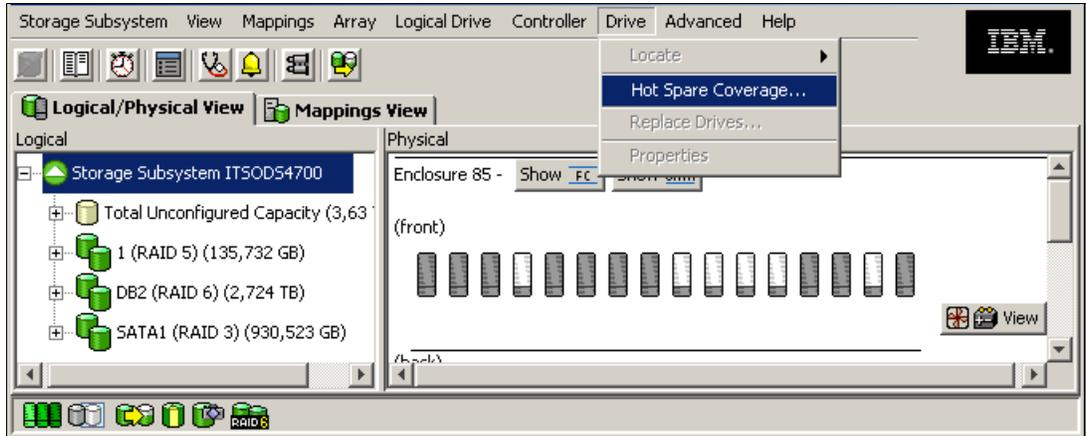

Figure 5-47 Selecting automatic hot spare coverage
1. Select **Drive** → **Hot Spare Coverage**, as in Figure 5-47.